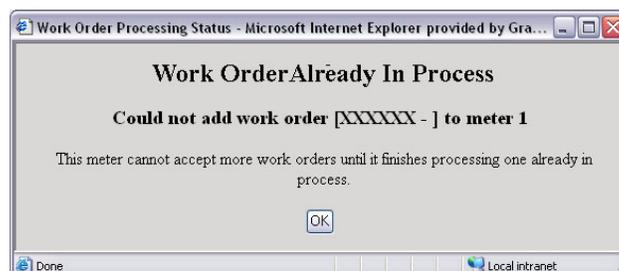

FIG. 39 Work Order Already In Process
2. **Work Order Already In Process** See FIG. 39. This message appears when the PC is attempting to send another work order. No RF communication is attempted when this screen appears. Attempt to send the work order again.